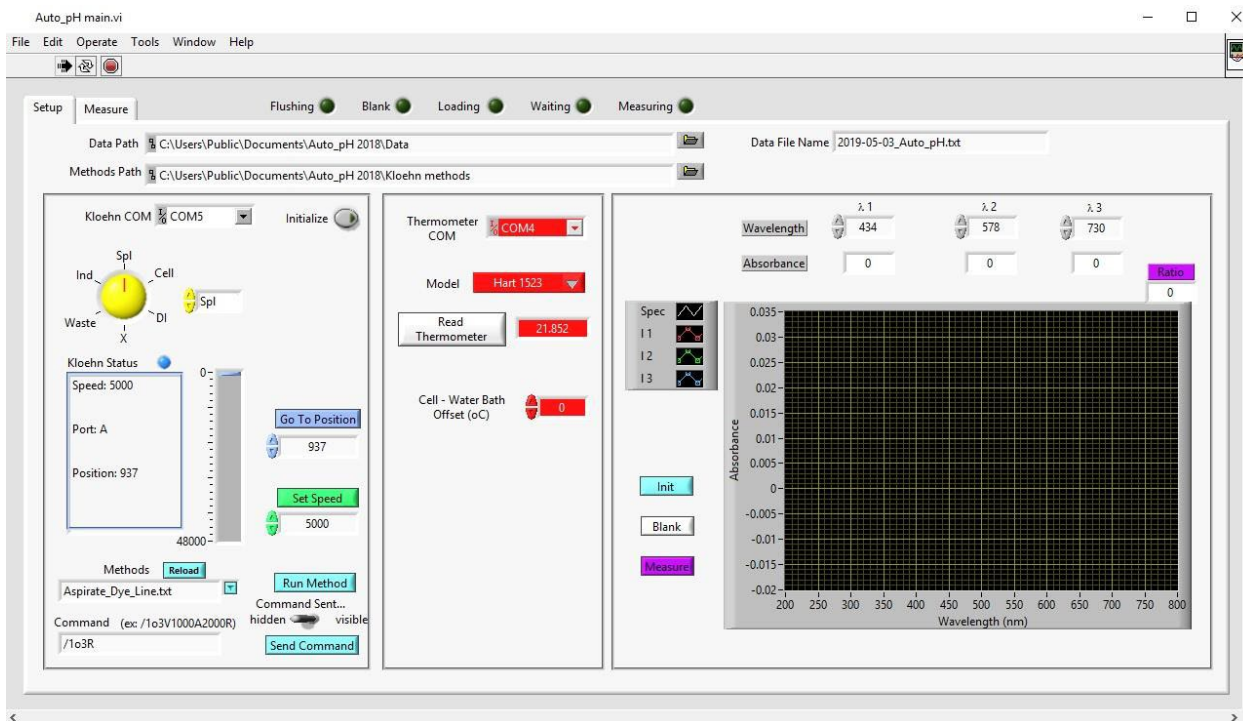

Figure 2. Auto_pH_2018.exe Labview program.
2. Open the *Auto_pH_2018.exe* Labview program on the computer desktop (Fig 2). See Navigating through the Labview Program below for assistance with the software.